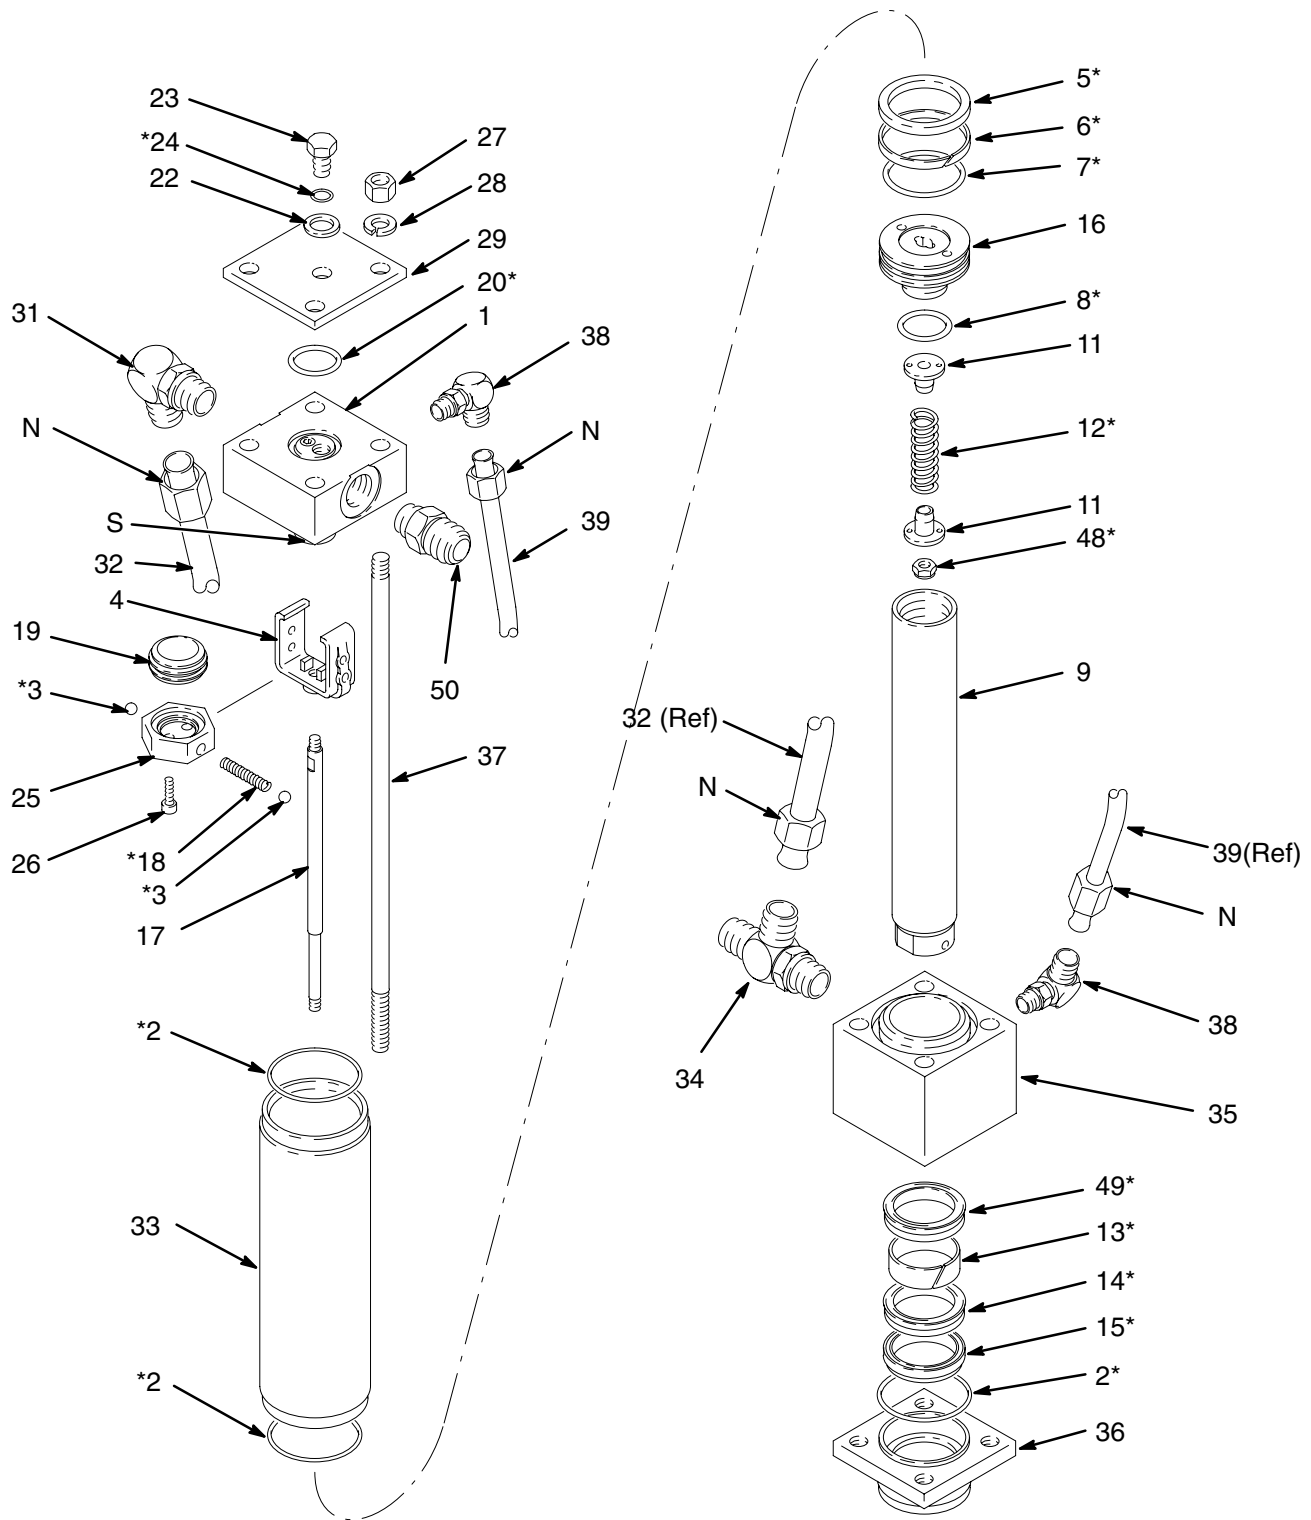
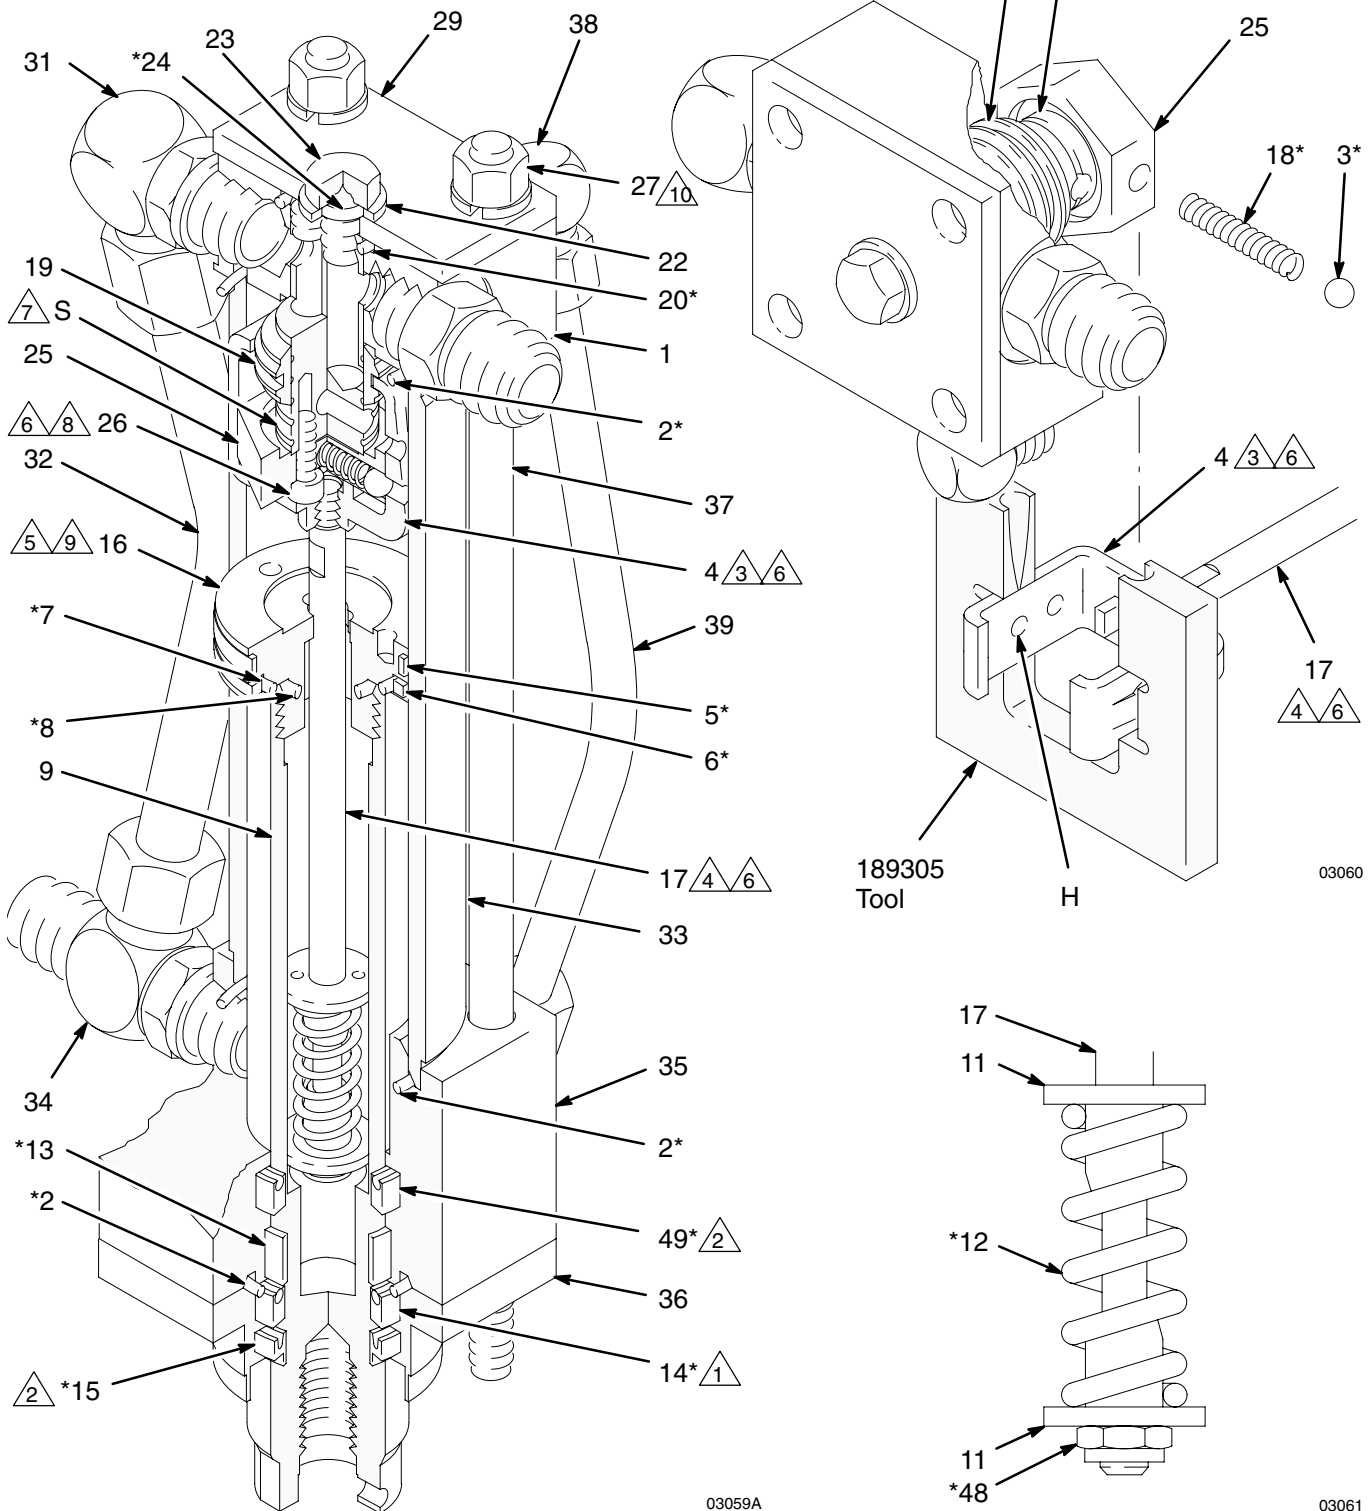

Fig. 7
Fig. 8
2. Unthread the tie rods (37) from the retainer (36) and pull them out through the top of the reciprocator. It should not be necessary to remove the four nuts (27) and lockwashers (28).
3. Unscrew the four fluid tube nuts (N) and remove the tubes (32, 39). See Fig. 7. Allow excess oil to drain from the reciprocator, then plug the fluid fittings.
10. Unscrew the nut (48) and remove the retainers (11) and spring (12) from the trip rod (17).
11. Slide the piston (16) off the trip rod (17). Remove the bearing (5), seal (6), and o-rings (7 and 8) from the piston.
12. Inspect the yoke (4) and trip rod (17) for damage. If either part requires replacement, slide the yoke into Repair Tool 189305 and set the tool in a vise. See Fig. 8. Use a wrench on the flats of the trip rod and unscrew the rod from the yoke.
13. Pull the housing retainer (36) away from the bottom cylinder cap (35).
14. Remove the block packings (14 and 49), wiper (15), bearing (13), and o-ring (2) from the housing retainer and bottom cylinder cap.
1. Install the block packing (14*) and wiper (15*) in the housing retainer (36). *The spring of the block packing and the lips of the wiper must face up.* Install the o-ring (2*) on the top surface of the retainer. See Fig. 8.
2. Install the bearing (13*) and block packing (49*) in the bottom cylinder cap (35). *The lips of the block packing must face up.*
3. Reassemble the housing retainer (36) and the bottom cylinder cap (35).
4. To reassemble the yoke (4) and trip rod (17), clean the threads with primer or chlorinated solvent and let dry for 3 to 4 minutes. Apply Loctite® 609 thread sealant to the female threads of the yoke. Slide the yoke into Repair Tool 189305 and place the tool in a vise. Using a wrench on the flats of the trip rod, screw the rod into the yoke. Torque to 54–56 in–lb (6.1–6.3 N•m).
5. Install the bearing (5*), o-ring (7*), and seal (6*) on the piston (16). Install the second o-ring (8*) on the underside of the piston. Slide the piston onto the trip rod (17) so the wide end of the piston faces the yoke (4).
6. Install the retainers (11) and spring (12*) on the trip rod (17). Screw the nut (48*) onto the rod until it runs out of thread, so that it bottoms out on the shoulder of the rod. See the Detail in Fig. 8.
7. Hold the flats of the displacement rod (9) in a vise. Slide the trip rod (17) into the displacement rod. Use a spanner wrench in the pin holes of the piston (16) to screw it into the displacement rod. Torque to 30–40 ft–lb (41–54 N•m).
8. Install the o-ring (20*) in the top cylinder cap (1), then install the cap plate (29), o-ring (24*), sealing washer (22), and capscrew (23).
9. To reassemble the valve sleeve (19) and valve stop (25), slide the sleeve (19) onto the valve spool (S). (Either side of the sleeve can face up.) Apply primer to the threads of the screws (26) and let dry for 3 to 4 minutes. Apply 1 or 2 drops of thread sealant to the female threads of the spool (S). Install the stop (25) and torque the screws (26) to 42–45 in–lb (4.7–5.1 N•m).
- a. Slide the yoke (4) into the repair tool, as shown in the Detail in Fig. 8. Align the upper detent holes (H) of the yoke with the center line of the tool.
- b. Insert the spring (18*) and one ball (3*) into the valve stop (25). Tilt the valve stop and start guiding it into the tool, making sure the ball is sliding into the rounded slot in the tool.
- c. Place the second ball (3*) at the other end of the spring (18*) and push it in with your thumb while rotating the valve stop (25) until the spring is horizontal and the balls are in place. Continue holding this assembly together.
- d. Align the curved ends of the yoke with the valve sleeve groove, then press the assemblies firmly together. Make sure the balls snap into the upper detent holes (H) of the yoke (4), and the curved ends of the yoke engage the valve sleeve (19) groove. To remove the tool, slide it over the trip rod (17).
11. Place the bottom cylinder cap (35) in a vise. Install the o-ring (2*) in the cap. Set the cylinder (33) on the bottom cap.
12. Install the o-ring (2*) in the top cylinder cap (1). Make sure the hydraulic fittings (31, 34, and 38) are oriented as shown in Fig. 7, then slide the displacement rod (9) and piston (16) into the cylinder (33) until it seats in the top cap.
13. Install the tie rods (37). If the nuts and washers were removed, screw them onto the ends with short threads. Torque the nuts (27) to 28–30 ft–lb (38–41 N•m).
14. Remove the plugs from the fluid fittings (31, 34 and 38). Install the tubes (32, 39) and tighten the four fluid tube nuts (N).